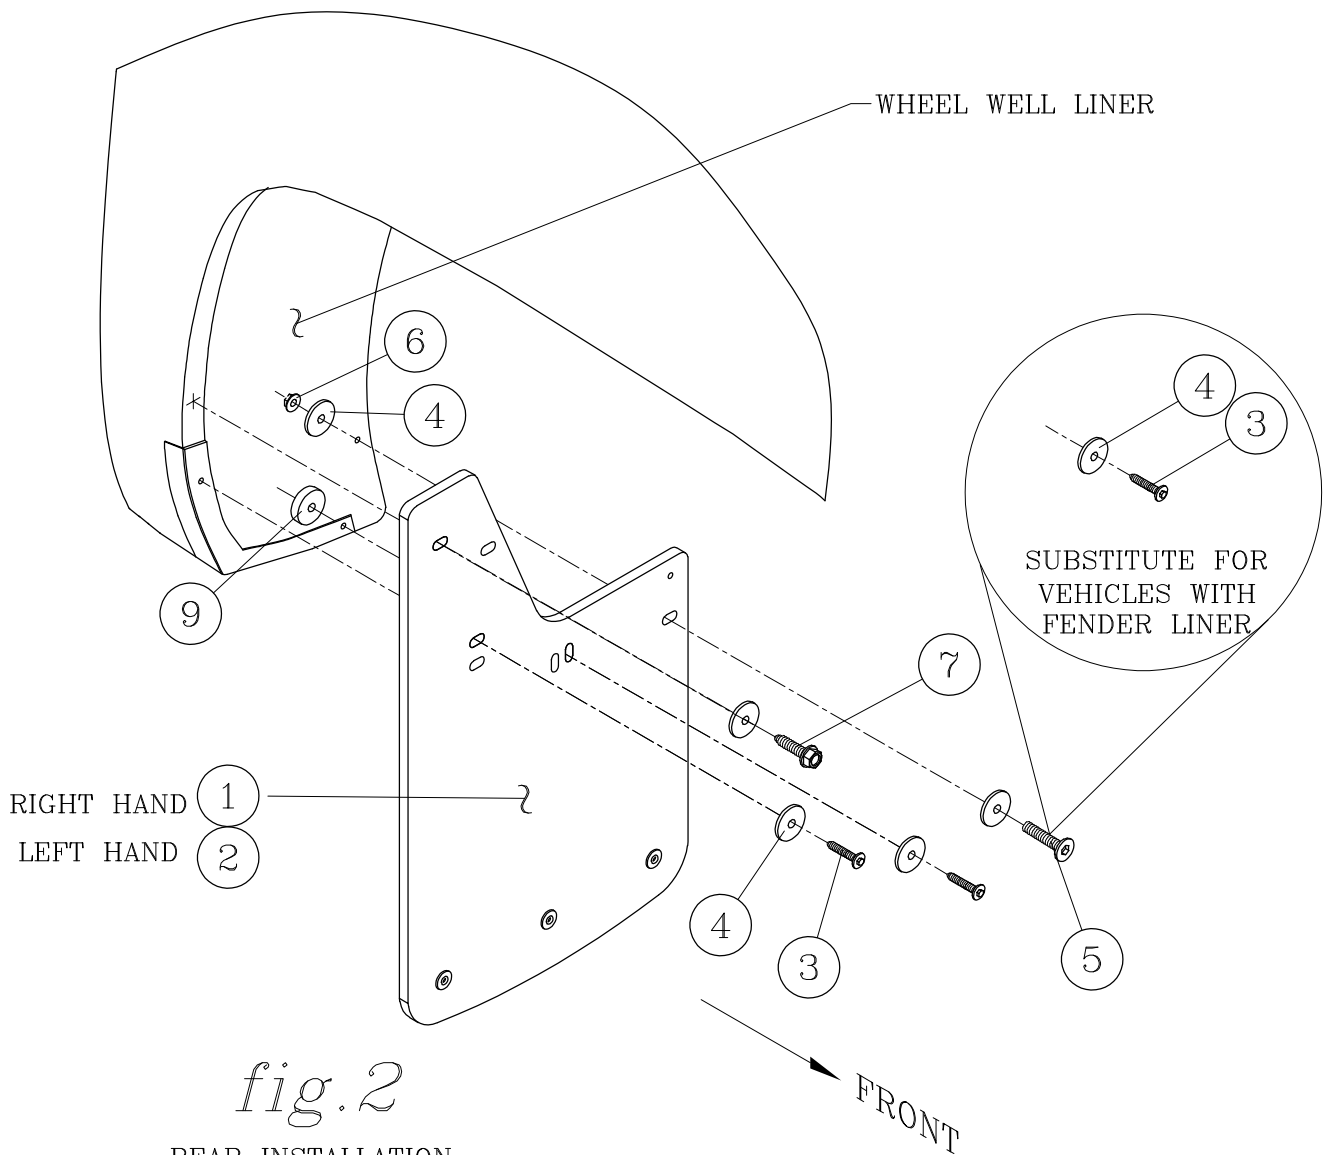

fig.2
- 3.1 REMOVE THE TWO FACTORY SCREWS THAT HOLD THE PLASTIC GUARD IN PLACE AND THE INNER FENDER LINER SCREW (FIG 2). **(THESE SCREWS ARE NOT REUSED, BUT THE PLASTIC GUARD WILL REMAIN).** NOTE: IF THE VEHICLE HAS A FACTORY FENDER WELL LINER REMOVE THE INSIDE SCREW HOLDING THE FENDER LINER ON AS SHOWN IN FIG. 2.
- 3.2 POSITION THE SPLASH GUARD AGAINST THE WHEEL WELL FLANGE AND INSTALL THREE HEX HEAD SEMS SCREWS WITH FENDER WASHERS (ITEMS #3, 4) THROUGH THE THREE LOWER HOLES AS SHOWN IN FIG. 2. AND TIGHTEN DOWN.